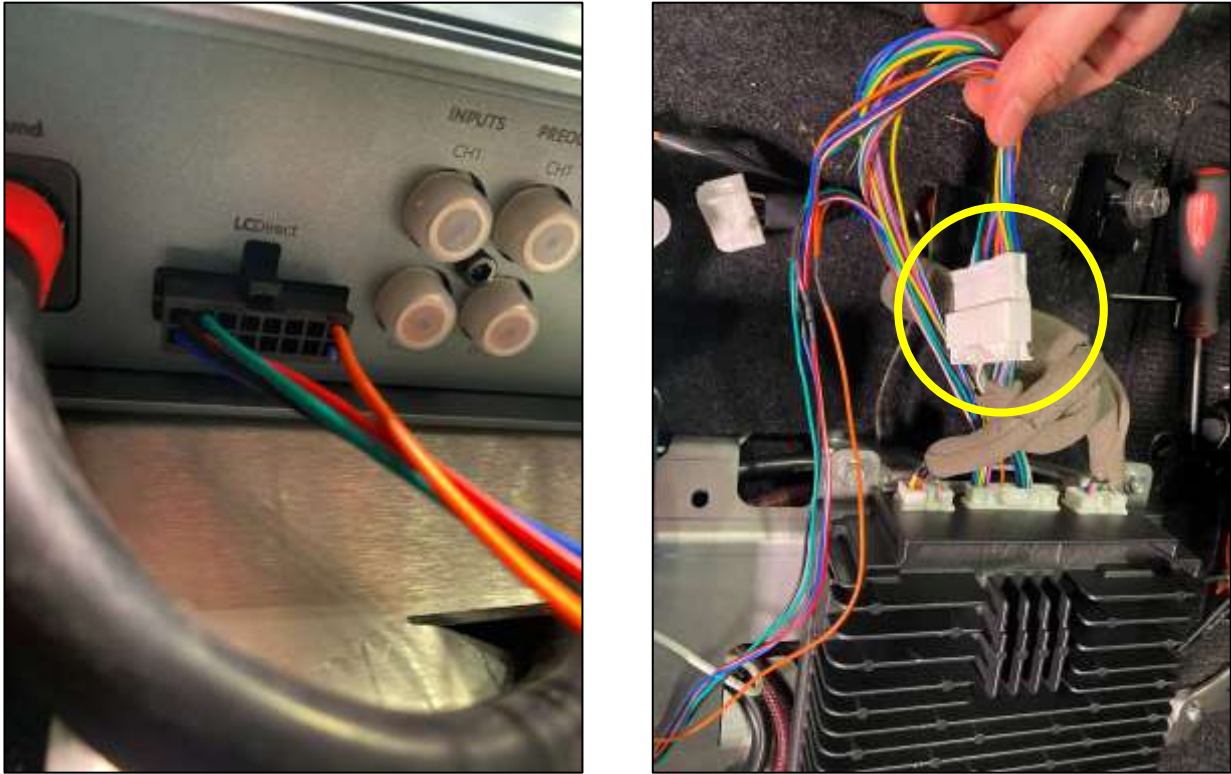

Figure 19
25. Locate the Amp Harness. Connect the 8 Pin Connector to the Amp. The Female End will connect to the OE Amp Harness. The Male end of the Harness will connect into the OE Amp. *Figure 19.*